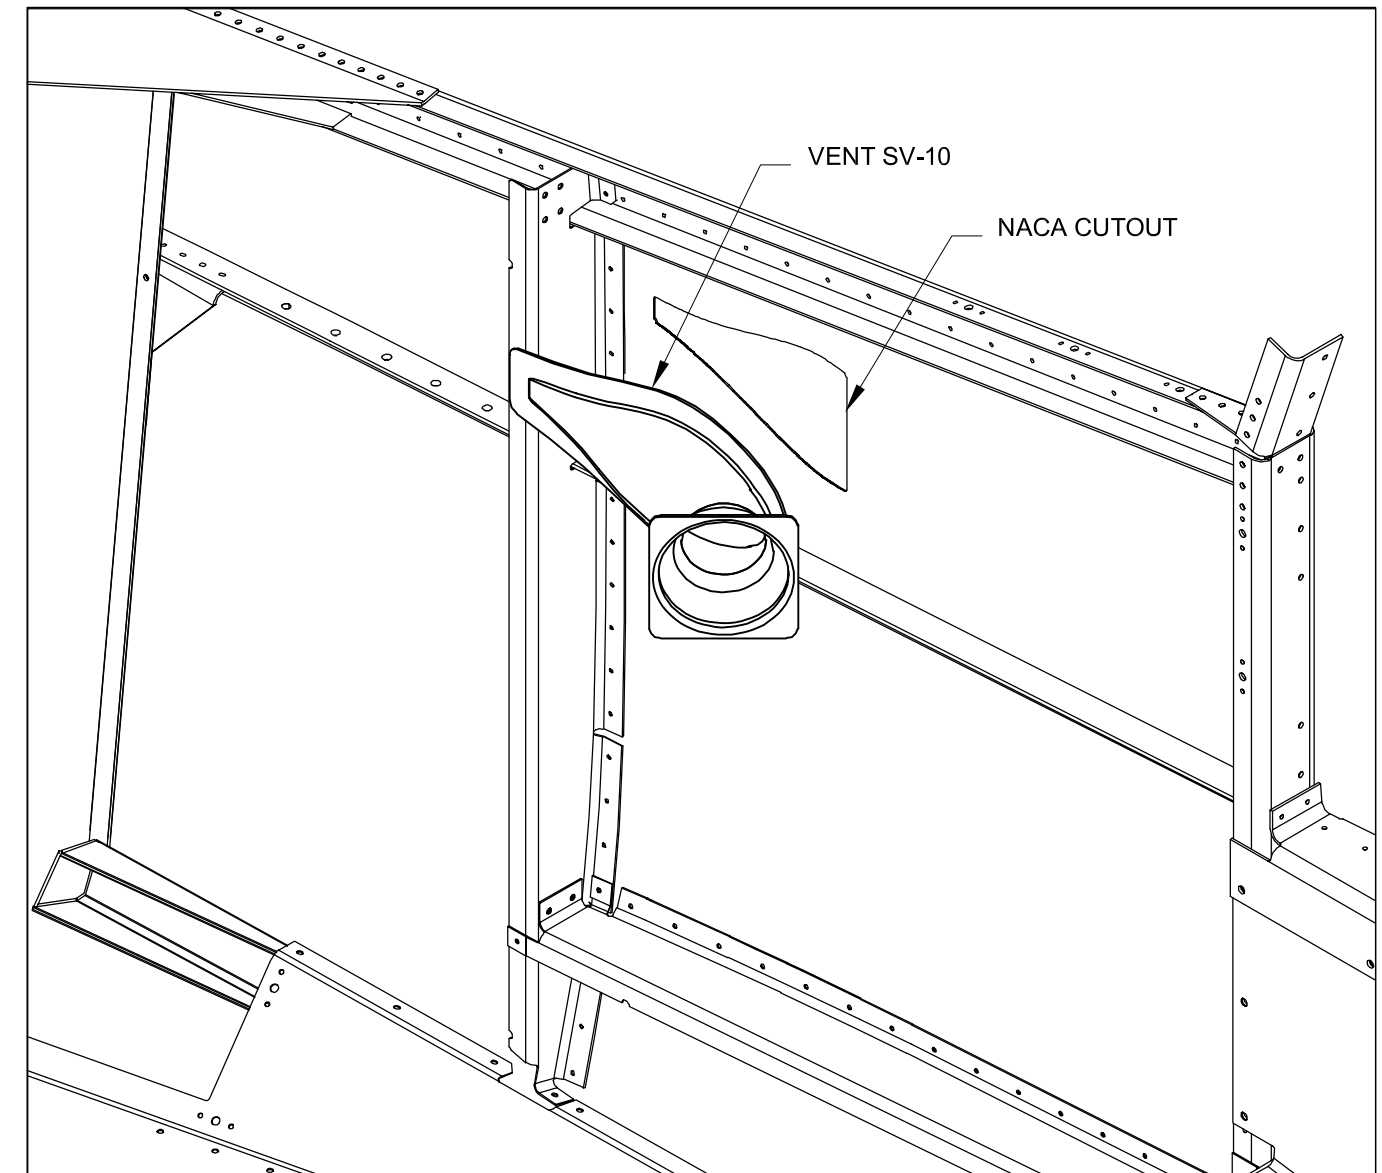

FIGURE 1: REMOTE VENT INSTALLATION
Step 1: Mix and apply tank sealant to the flange around the VENT SV-10 Remote Vent. Center the vent around the NACA shaped cutout in the F-1069-R Forward Side Skin, then clamp the vent in place and let the tank sealant cure. See Figure 1.